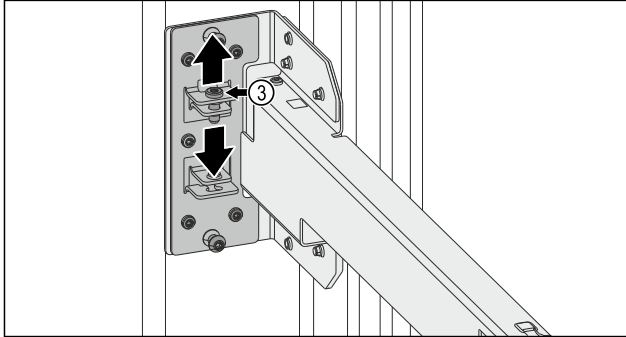

Fig. 14
- ▶ Loosen the screw *Fig. 14 (3)*.
- ▶ Tighten the screw *Fig. 14 (3)*.